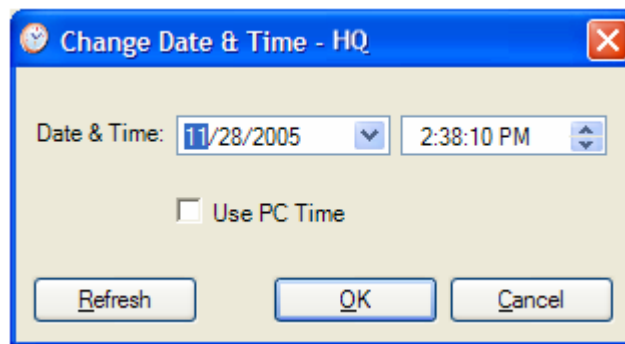

Figure 4-15. Manually Changing Date and Time
6. To manually set the date and time, click **Change** (Figure 4-15) and edit the new values.